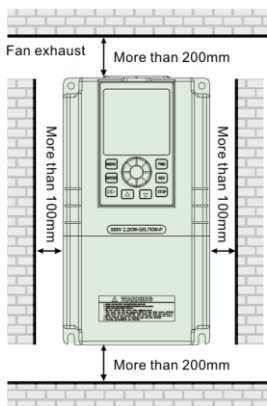

Fig.3-1 Mounting space and distance
- ◆ For the requirements on mounting space and distance, refer to Fig.3-1.